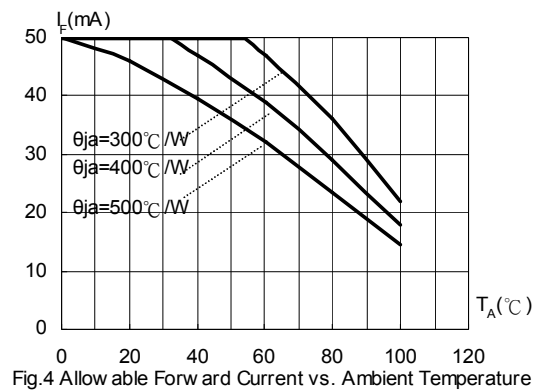

Fig.4 Allowable Forward Current vs. Ambient Temperature
1. Design of heat dissipation should be considered. For the allowable operating current at different operating temperature, please refer to fig 4. page 4.